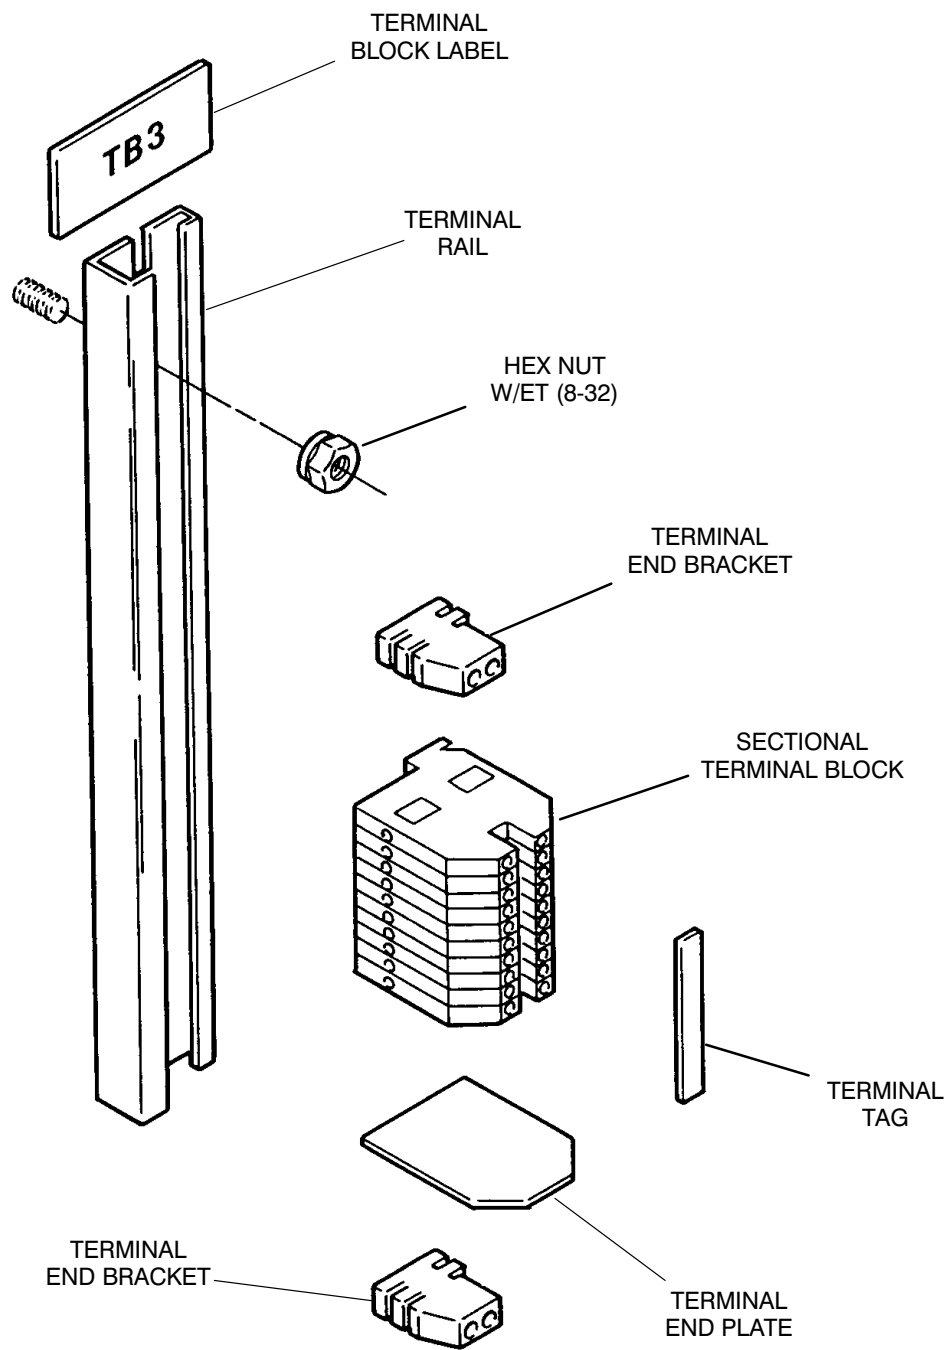

FIGURE 1. TERMINAL BLOCK ASSEMBLY
These instructions give the procedure for installing a terminal block assembly kit (Figure 1) in a BT, OT or LT transfer switch. Because the transfer switch presents a severe shock hazard, this kit is to be installed by technically qualified personnel only.
7. Attach terminal block label next to the terminal block assembly (Figure 1).